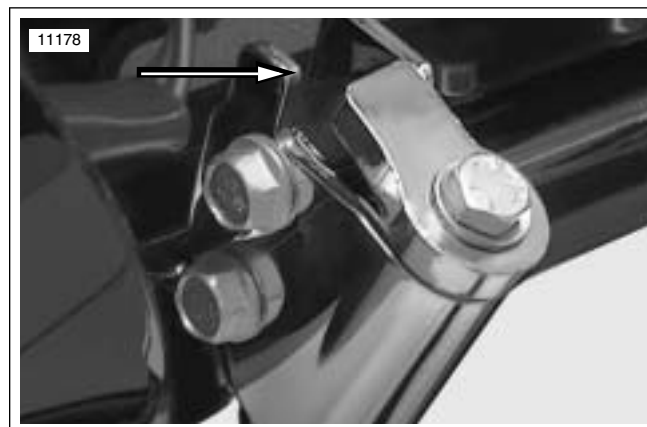

Figure 2-35. Jiffy Stand Catch and Lock Slot
2. See Figure 2-35. Inspect leg stop and lock slot in jiffy stand weldment. If covered or plugged with dirt, wipe dirt off with a shop towel and spray catch and mating surface with LOCTITE® AEROSOL ANTI-SEIZE.
2. See Figure 2-35. Inspect jiffy stand catch and lock slot in jiffy stand weldment. If covered or plugged with dirt, wipe dirt off with a shop towel and spray catch and mating surface with LOCTITE® AEROSOL ANTI-SEIZE.